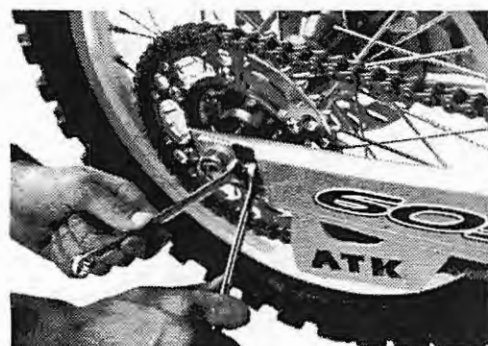

Figure 4.23
6. Ensure that the adjuster screws are tight against the adjuster blocks, then tighten the lock nut with a 12 mm wrench while holding the adjuster screw with a second 12 mm wrench. (Figure 4.23)